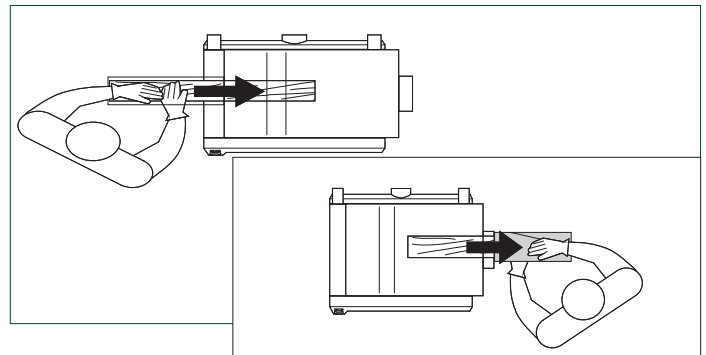

FIG. 7
1. To feed the workpiece into the machine, assume proper operating position, FIG. 7. Stand offset to one side of the feed opening to avoid any kick-back, should it occur. Do not push the lumber once the infeed roller has been engaged. Let the infeed roller move the workpiece into the planer at its own pace.
2. To remove the workpiece from the machine, position yourself offset to one side of the outfeed opening. FIG. 7. Do not pull the lumber as it exits the machine. Let the outfeed roller move the workpiece out of the planer at its own rate, but support the lumber as it extends past the extension rollers.